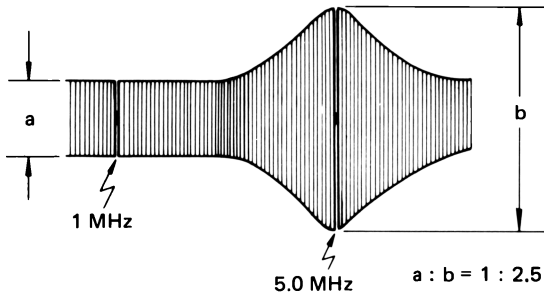

Fig. 3-10
4. Adjust R1, R2 to get the ratio between 1 MHz and 5.0 MHz level 1 : 2.5 as shown in Fig. 3-10.